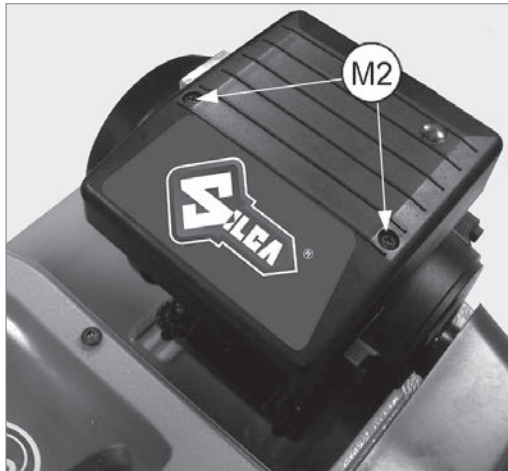

Fig. 66
- 1) Loosen the 2 screws (M2) and remove the motor cover (Fig. 66).
- 3) Remove the switch (K) making pressure on the tabs with a screwdriver.
- 2) Detach the connectors (Z) paying special attention to their position.
- 3) Remove the condenser (Y).